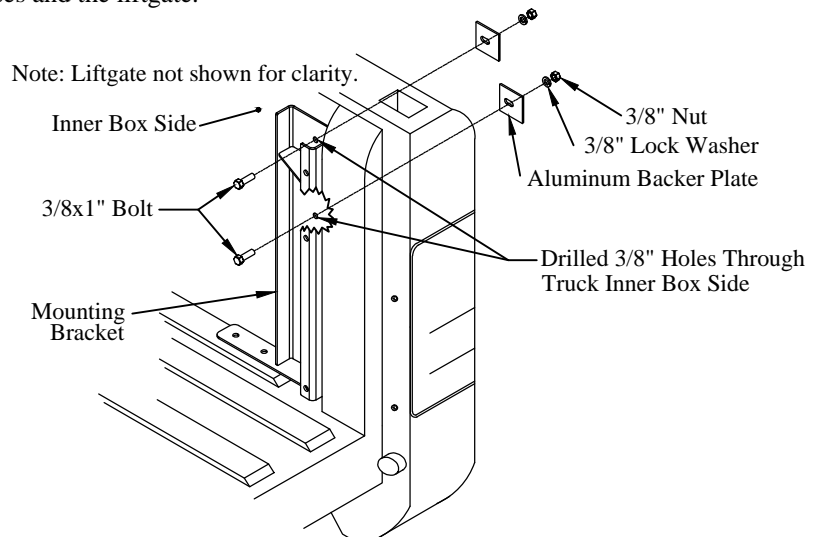

Figure 12: Mounting bracket and backer plates.
11. **Fasten** each bracket to the truck inner box side using the supplied (Figure 12):